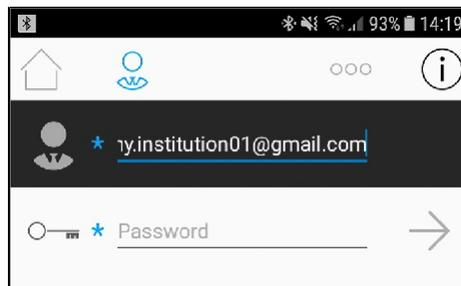

Figure 6. User Name and Password Fields
6. Tap in the **User Name** field and use the keyboard to type in your user name. Figure 6 shows an example of a user name typed into the field (e.g., my.institution01@gmail.com).
7. Tap in the **Password** field, type the password, and tap the forward arrow next to the Password field to enter login information (see Figure 6). The Home screen appears.